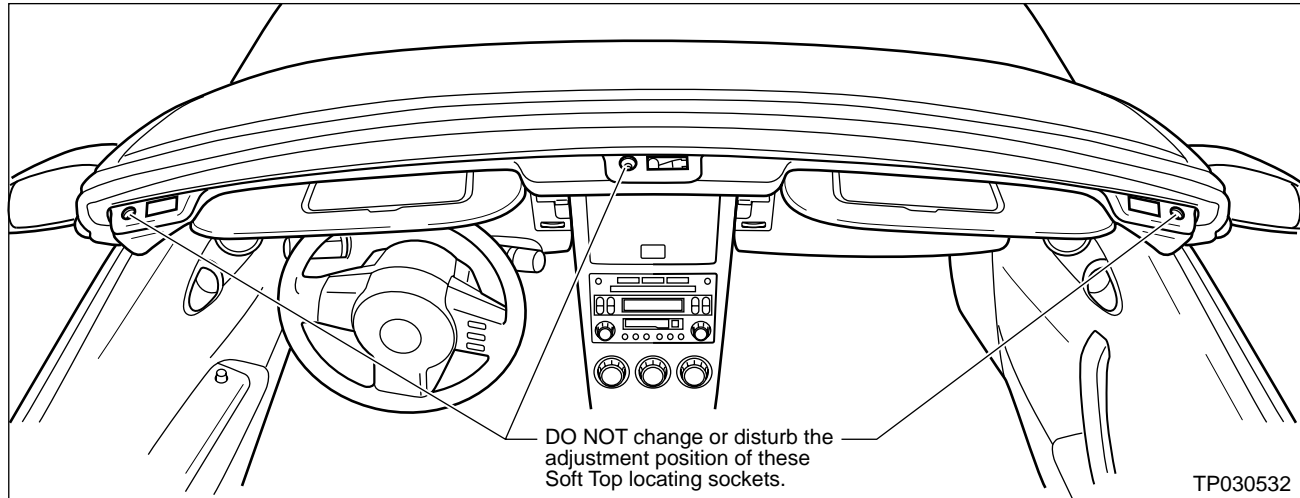

Figure 4
- **Do not “disturb”** (move or change) the adjustment of the Soft Top locating sockets shown in Figure 4.